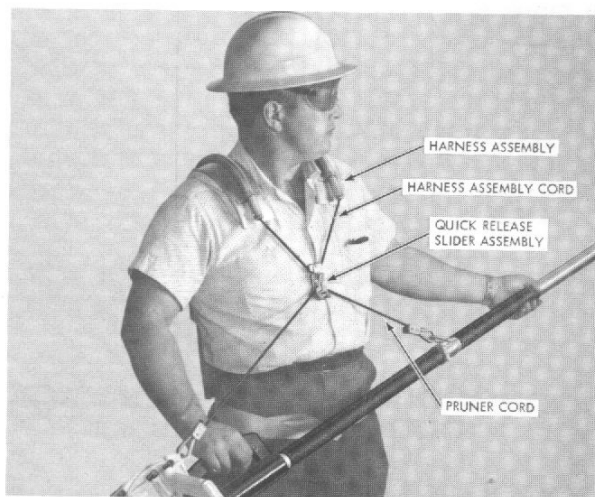

Figure 16. Wearing Harness Assembly
2. Wear the Harness Assembly in the same way as shown in Figure 16. Tighten the Harness belt until it feels comfortable.